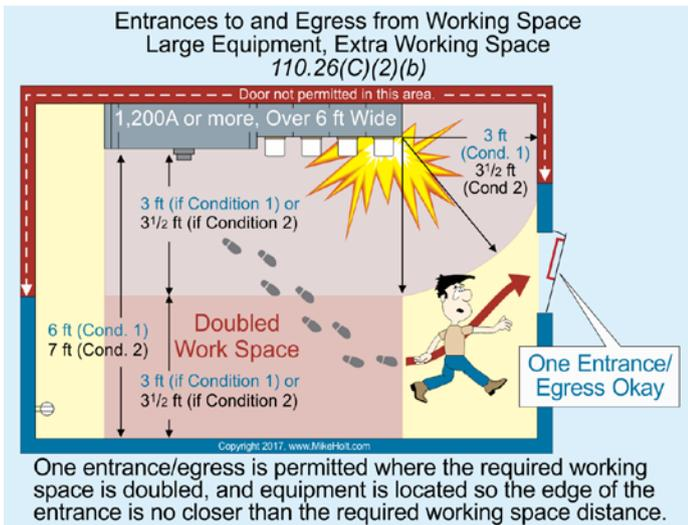

Figure 110-41
**(b) Double Workspace.** Only one entrance is required where the required working space depth is doubled, and the equipment is located so the edge of the entrance is no closer than the required working space distance. Figure 110-41